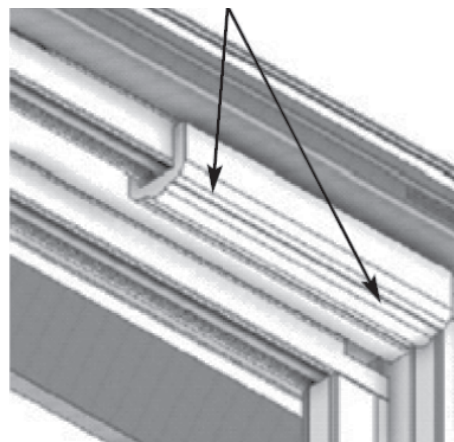

Figure 31
53. Install the panel bumper (Item 24) using two screws (Item 47) through the center of the bumper at 1/4" from each end (Figure 31).